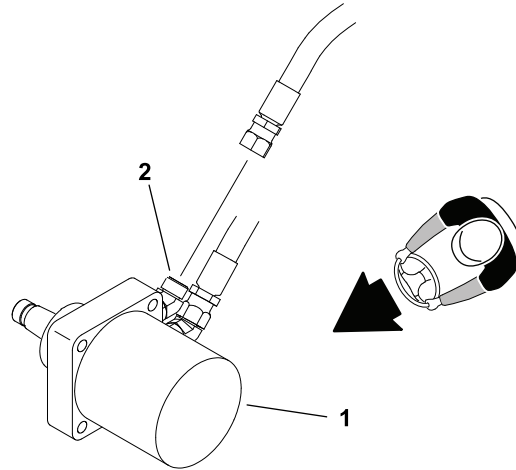

Figure 43
1. Disconnect hose from the upper hydraulic fitting of the rear wheel motor (Figure 43).